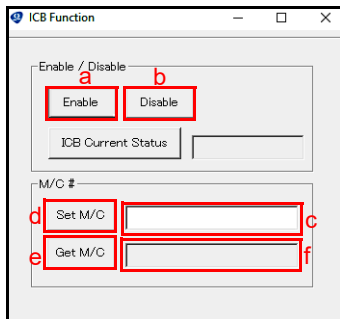

Figure 3 ICB Function Screen
5. Enter a Machine or Asset Number in the Set M/C text field (Figure 3 c), then click the Set M/C button (Figure 3 d) to assign an ICB Machine/Asset Number to the UBA Pro.
6. Click the Get M/C button (Figure 3 e) to read the current Asset/Machine Number from the UBA Pro (Figure 3 f).